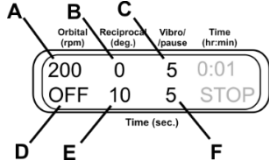
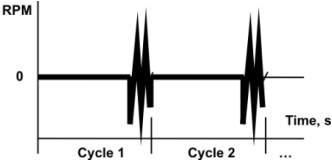

Figure 11.
Figure 12.
6.9.4. **Vibration + Pause.** Turn off Orbital motion by setting time of Orbital motion below zero (fig. 11/D, OFF). Set the amplitude of Reciprocal motion (fig. 11/B) to zero. Set the time for Reciprocal motion (fig. 11/E, 1–250 s), this is the time of pause duration. Set the amplitude (fig. 11/C, 0–5°) and time (fig. 11/F, 1–5 s) for Vibro motion. See figure 12 for process visualization.